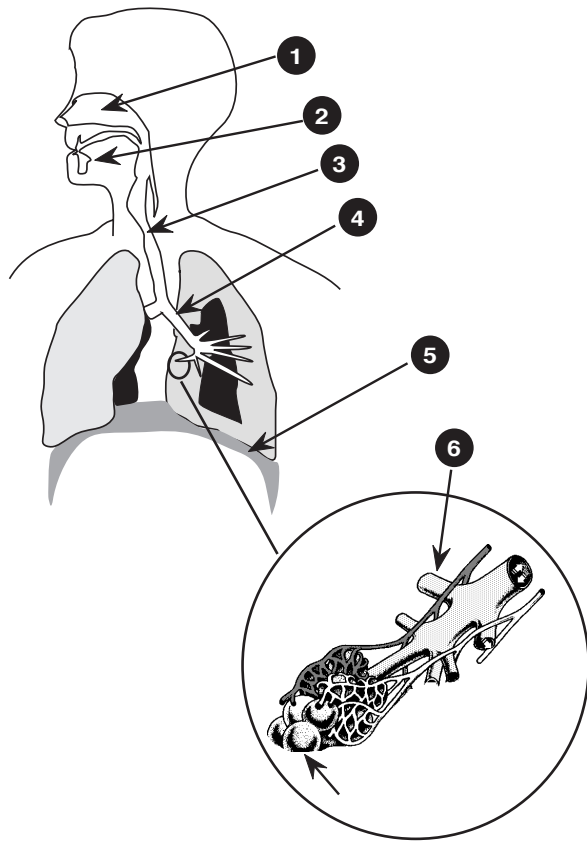

Figure 160.1 The respiratory system
1. What are the names of the anatomical features 1 – 6 in Figure 160.1?